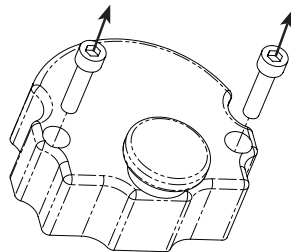

Figure 1
2. Using the *5mm Hex Key*, remove the two large screws that fasten the Stabilizer to the bike as shown in Figure 1. These screws will not be reused.